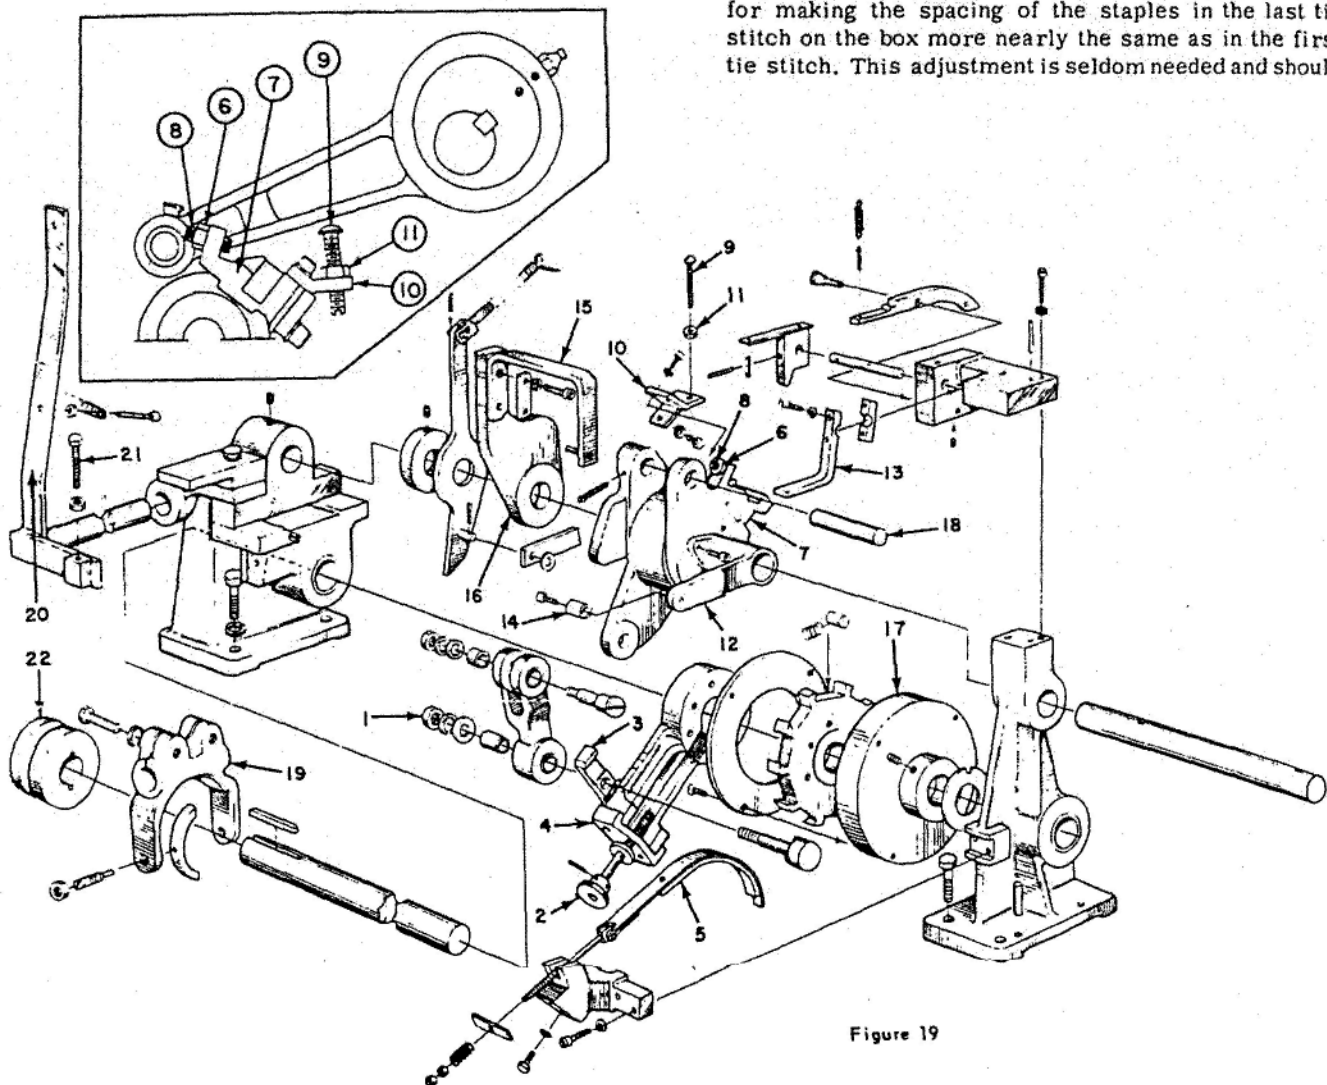
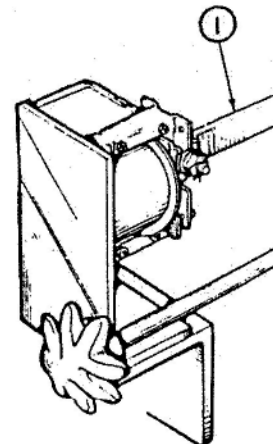

Figure 19
Figure 22 - Tie Stitch Release Solenoid
Refer to Figure 19.
Brake band (5), Figure 19, is to prevent overtravel of step feed rollers. Adjustment can be made by the brake band adjusting nut. However, it is seldom necessary to adjust brake and CARE SHOULD BE USED NOT TO HAVE BRAKE SET TOO TIGHT, since it will put undue load on motor and parts.
If the tie stitch spacing is not as desired, loosen nut (6) on Tie Stitch Latch Block (7), Figure 19, and turn screw (8) to increase or decrease the spacing. Turning screw in increases space, and turning screw out decreases space. Tighten nut (6) when adjustment is finished.
Screw (9) Figure 19, located in bracket (10), is used for making the spacing of the staples in the last tie stitch on the box more nearly the same as in the first tie stitch. This adjustment is seldom needed and should
The tie stitch release lever link (1), Figure 22, has only a horizontal adjustment. This link is adjusted by loosening the two bolts at the base of the solenoid bracket and moving the bracket either forward or backward. Proper adjustment is attained when the tie stitch solenoid plunger bottoms properly, and also when the "throw" or movement of the link is such, that the tie stitch lever travels far enough to lock the tie stitch latch lifter. The tie stitch lever and the tie stitch link are part of a single linkage.
The release arm (13), Figure 19, can be positioned by loosening both socket cap screws that fasten it to the small shaft. Position the release arm so that, when the machine is turned over by hand in the counterclockwise direction, the release arm actuating lever (12) will release the tie stitch latch lifter once it has been locked in position. This adjustment is rather critical. If the release arm is positioned so that it is kicked out too soon, there is a possibility that the release arm nylon button (14) will bear on the release arm and the tie stitch lever will not lock the tie stitch in.
The tie stitch lever (15) is slotted and is fastened to the tie stitch control arm (16). Refer to Figure 19. Adjust the vertical position of the lever so that when the tie stitch solenoid is activated, the rollpin forces the tie stitch latch lifter below it into a locked position.
If the complete range of adjustment has been made and you are unable to lock the tie stitch latch in place by hand, check the adjustment of the tie stitch release arm (12), Figure 19 and the adjustment of the tie stitch release lever link (1), Figure 22. These three parts must be adjusted relative to one another in order to function properly.